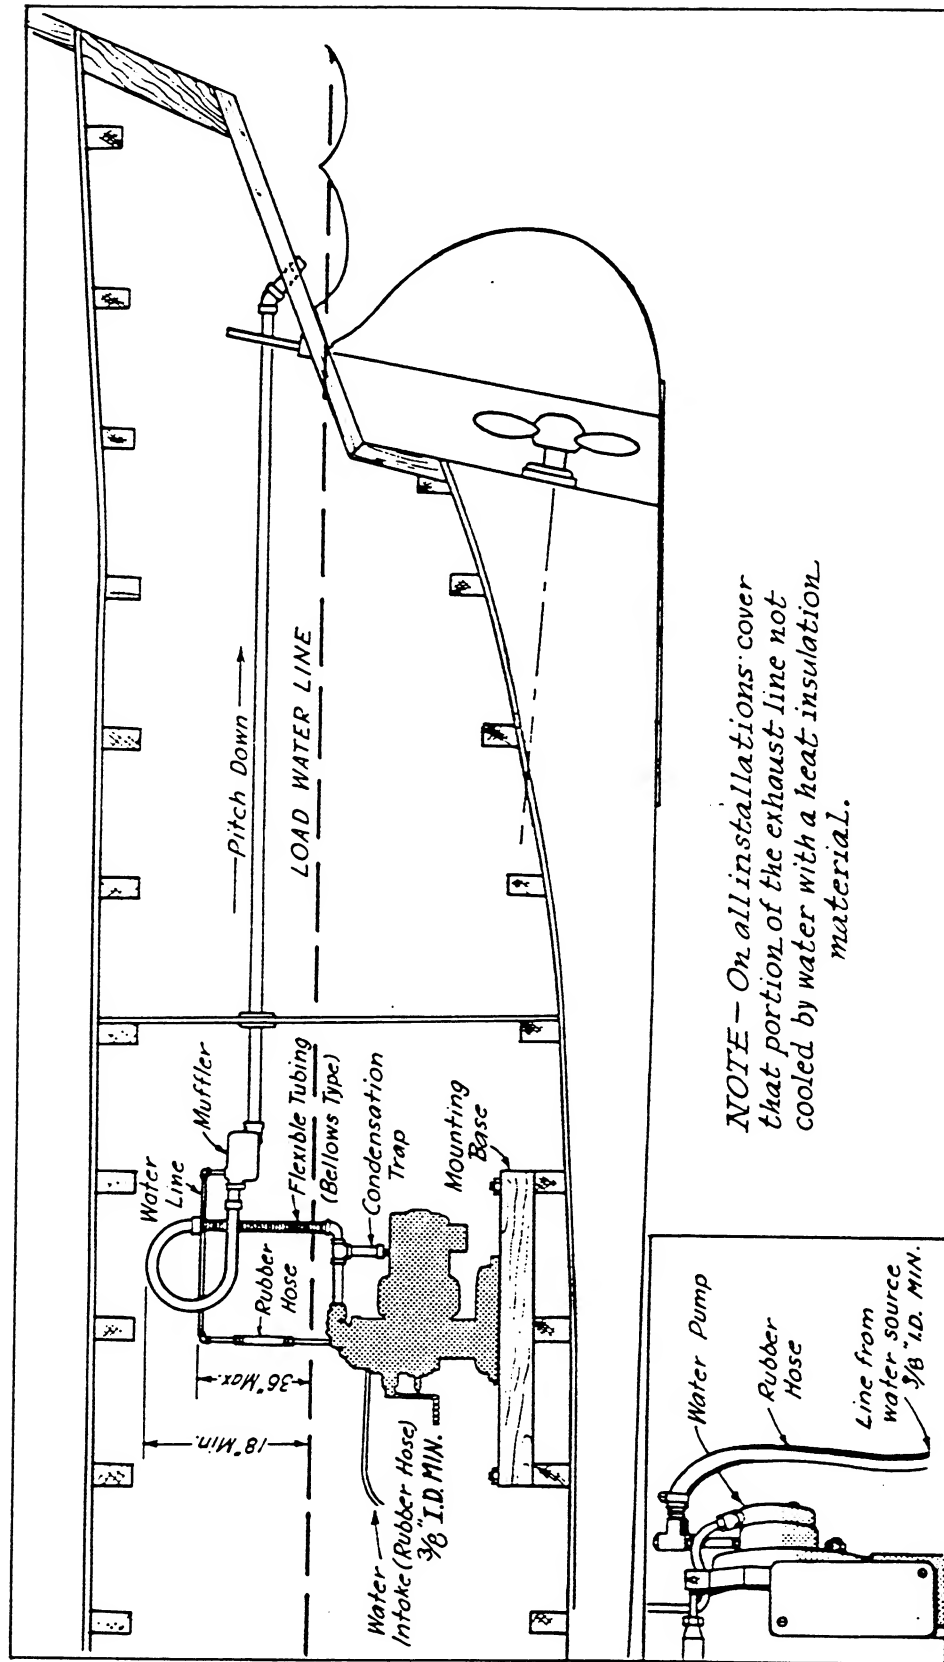

FIG. 3 - TYPICAL INSTALLATION - BELOW LOAD WATER LINE
1. If the generating plant is installed below the load water line or there is a possibility of shipping water into the exhaust pipe, a vertical gooseneck loop should be placed in the exhaust line between the condensation trap and the flexible tubing. This loop should extend at least 18 inches above the highest possible water level. The loop and the flexible tubing should be covered with heat insulating material. The muffler and exhaust line from the muffler to the escape through the hull must be above the load water line and should slope gradually downward from the muffler to the outlet. The outlet must not be submerged. The muffler may be placed in the exhaust line anywhere that is convenient after the vertical loop. In this installation the cooling water is turned into the exhaust line immediately after the vertical loop, either through the muffler or through the exhaust line proper, whichever is most convenient. See Fig. 3.